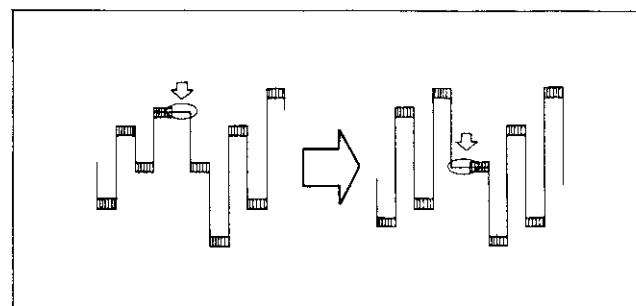

Fig. 5-5
7. Connect probe of oscilloscope to IC02 pin ⑪, and adjust T05 for the waveform shown in Fig. 5-5.